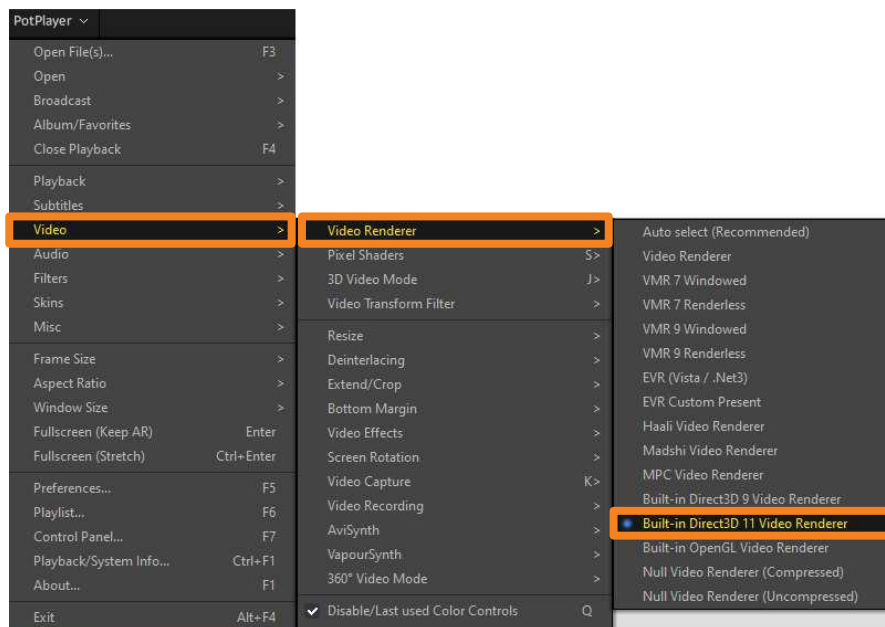

Figure 9.5. Video Renderer Option
- To change the Video Renderer option in PotPlayer, right click on the video and select **Video > Video Renderer > Built in Direct3D 11 Video Renderer**, as shown in Figure 9.5.